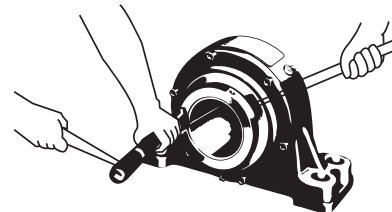

Figure 1 - Preferred Method -
2. Loosen lockscrews (75) in adapter nuts (65) and (70) to prevent damage to adapter (9). (If necessary to expand adapter (9), loosen knurled adapter nut (70) approximately two turns and tap on end of this nut.)
4. DO NOT FULLY TORQUE CAP SCREWS OF END PLATES (25) TO FRAME UNTIL BEARING IS TIGHTENED ON SHAFT.
7. Loosen (turn counterclockwise) nut (65) one full turn. MAKE SURE THIS NUT DOES NOT TOUCH END OF BEARING (35 or 40) DURING TIGHTENING OPERATION. (See Arrow "A" on Drawing.) Tighten (turn clock-wise) KNURLED nut (70). Repeat the loosening of smooth nut and the tightening of KNURLED nut one turn at a time until adapter (9) is snug on shaft and considerable effort is required to turn knurled nut (70). Then use sledge and brass bar as shown in illustration.
8. TIGHTEN (turn clockwise) NUT (65) UNTIL IT IS TIGHT AGAINST END OF BEARING (35 or 40). FURTHER TIGHTEN SMOOTH NUT WITH SLEDGE AND BRASS BAR AS SHOWN IN ILLUSTRATIONS. (Figures 1 thru 4.)
Hitting on nut at an angle where unable to hit at right angle to face. This method is not as effective as the method shown in Figure 1. ★ ▲
Hitting on O.D. of nut with brass bar held at right angle to shaft. This method is not as effective as the methods shown in Figures 1 or 2. ★ ▲
This is an alternate method to those shown in Figures 1, 2, and 3 in that a spanner wrench is used in place of the barring rod. ★ ■